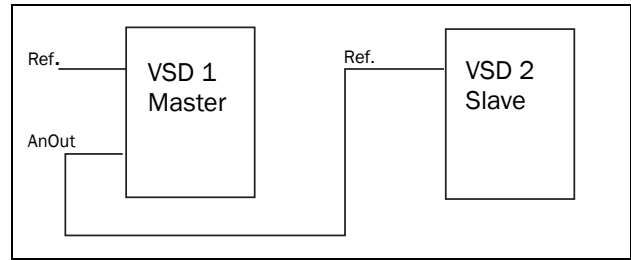

Fig. 103
- a reference signal for the next VSD in a Master/Slave configuration (see Fig. 103).